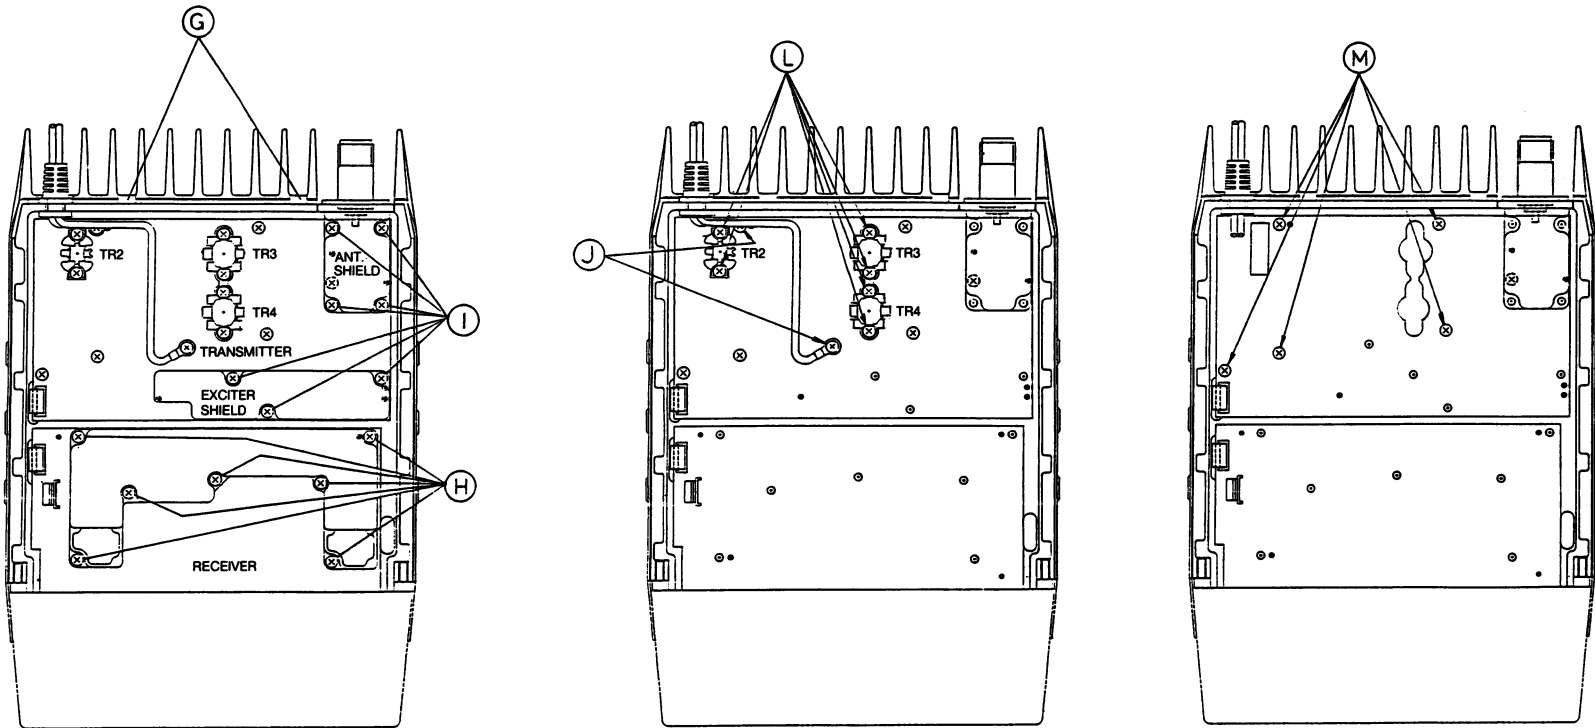

FIGURE 3 - Disassembly Procedure (Bottom View)
- 1. Loosen the screws (G) securing the top cover and the bottom cover (refer to Figure 3).
- 2. Disconnect the interconnecting cables and then remove the seven (7) (H) securing the shield to the receiver board. Carefully lift up and remove the board.